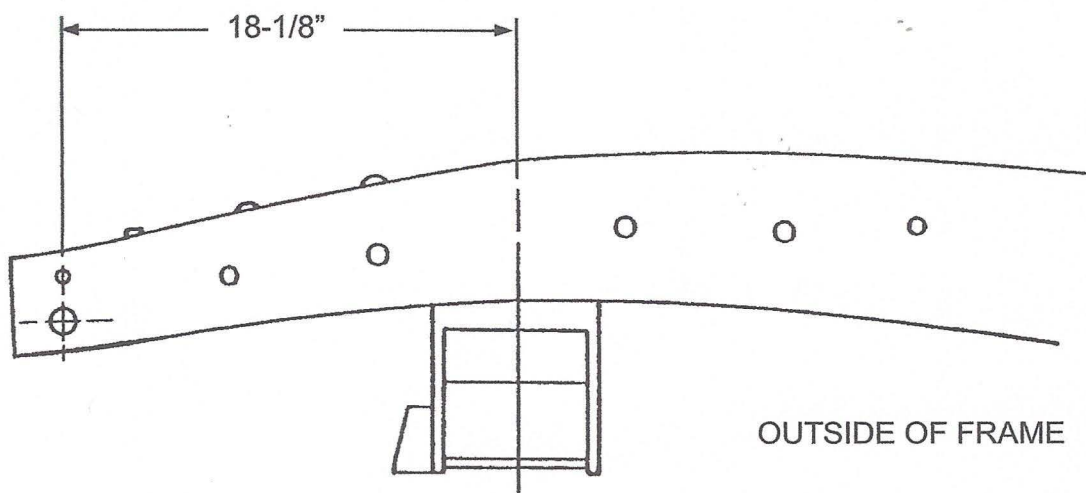

Figure 2
5. Now install the new crossmember. Measure straight back 18-1/8" from the center of the front spring shackle hole in the frame and make a vertical line as shown in Figure 2. This will be the center of the crossmember and the spindle centerline. Slip the crossmember up into the frame and center it on the centerline mark. If it does not fit up into the frame, grind the sides of the crossmember uprights so you can get it into this position. Make sure that the crossmember is seated fully on the underside of the frame. Tack weld in place.